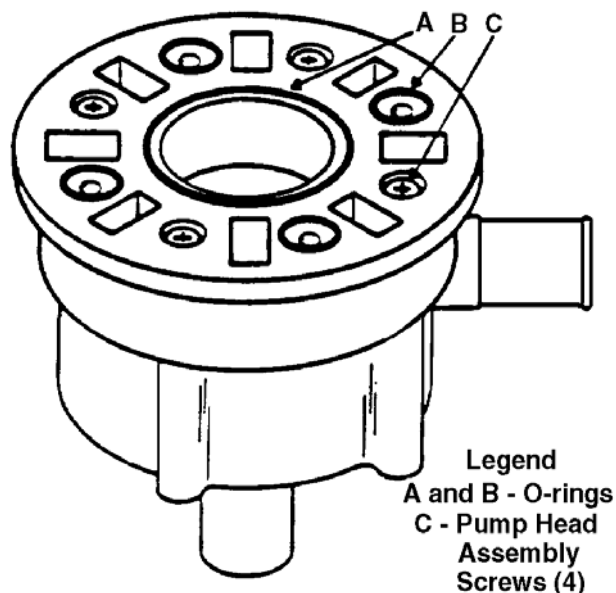

Figure 1-9. View of circulation pump head.
- (1) Disassemble the fix pumps and clean as follows. Refer to figure 1-9.
- (2) Reassemble the fix pump by reversing the steps in (a)-(c), above. Lubricate the internal O-ring with a silicone-base lubricant before installing. Do not over tighten the self-tapping assembly screws.